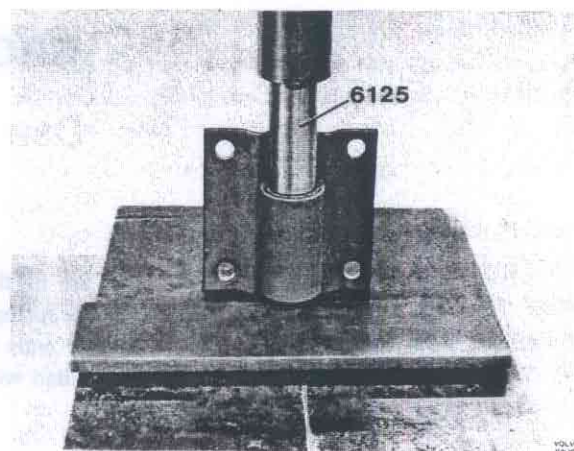

Fig. 72-4. Pressing bushing out of anchorage
7. Replace the upper bushing in the rear anchorage in the press with the drift 6125, see Fig. 72-4.
4. Replace the upper bushing in the rear anchorage in the press with drift 6125, see Fig. 72-4.